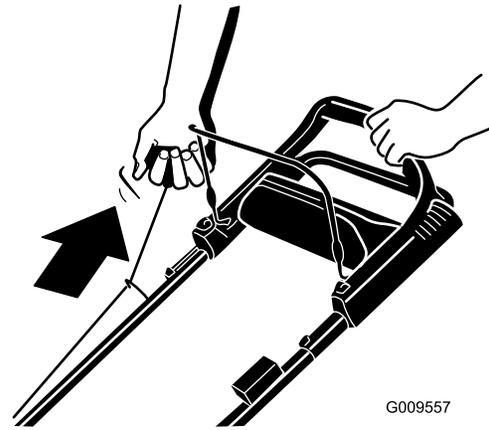

Figure 15
2. Pull the recoil starter lightly until you feel resistance, then pull it sharply (Figure 15). Allow the rope to return to the handle slowly.